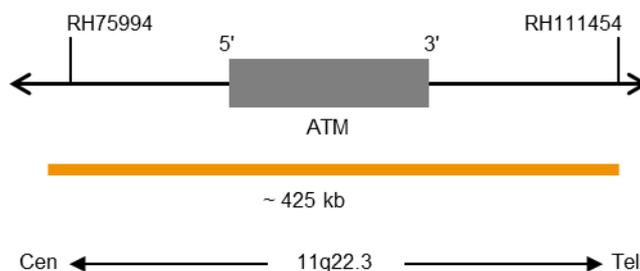

Fig. 1: SPEC ATM Probe map (not to scale)
- ZyOrange (excitation 547 nm/emission 572 nm) labeled polynucleotides (~4.5 ng/μl), which target sequences mapping in 11q22.3* (chr11:107,957,618-108,380,921) harboring the ATM gene region (see Fig. 1).